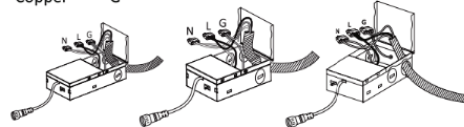

Fig2
- 2.** Open the J-Box cover and remove the appropriate knockout(s) on the side panel. Install the appropriate cable clamp(s) (not included) and insert the electrical supply cable through the cable clamp. Connect the supply wires to the fixture wires by using 3 connectors. Attach white to white, black to black, copper to the ground wire, see Fig2.